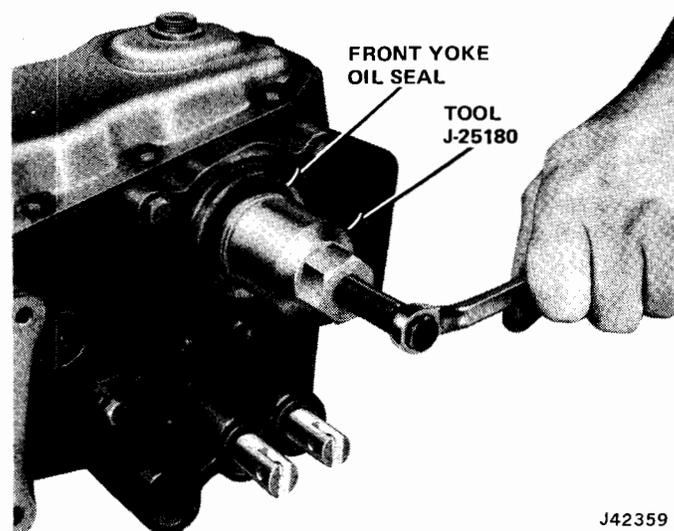

Fig. 8-10 Front Yoke Oil Seal Removal
- (4) Remove oil seal with Puller J-25180 (fig. 8-10).
- (5) Install new seal with Driver J-25132.
- (6) Install yoke, washer, and nut. Tighten nut to 240 foot-pounds torque.
- (5) Remove seal from bearing cap bore with Puller J-25180 (fig. 8-10).
- (6) Remove bearing cap assembly from vise, and using rear face of cap as support, drive output shaft from bearing cap using brass drift and hammer.
- (7) Lift out tapered bearing and drive bearing cup from bearing cap rear bore.
- (8) Drive front bearing cup from bearing cap front bore.
- (9) Remove speedometer drive gear and shims from shaft.
- (9) Remove front oil seal using Puller J-25180 (fig. 8-10).
- (10) Remove cover plate attaching screws and remove cover. Remove front output shaft rear bearing.